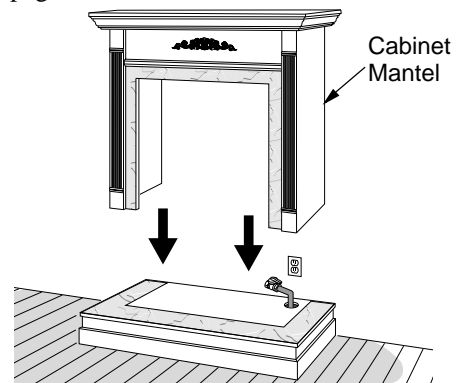

Figure 21 - Installing Cabinet Mantel
6. Center cabinet mantel on hearth base (see Figure 21). Make sure mantel is flush against wall.